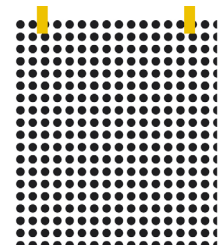

Figure 01
- › Tape the MICROCGUV film into place at the top using masking tape. (FIG. 01)